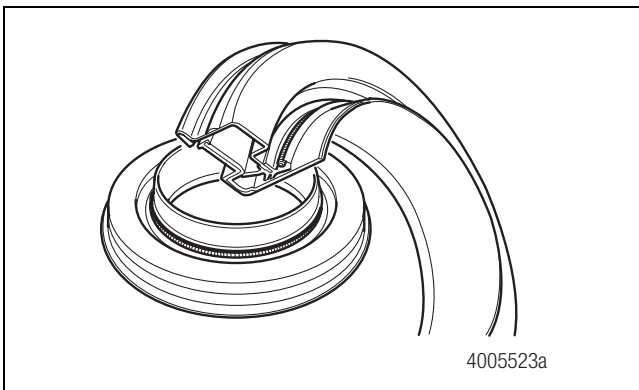

Figure 5.10
- Remove the replacement multiple lip seal from the package. Figure 5.10.